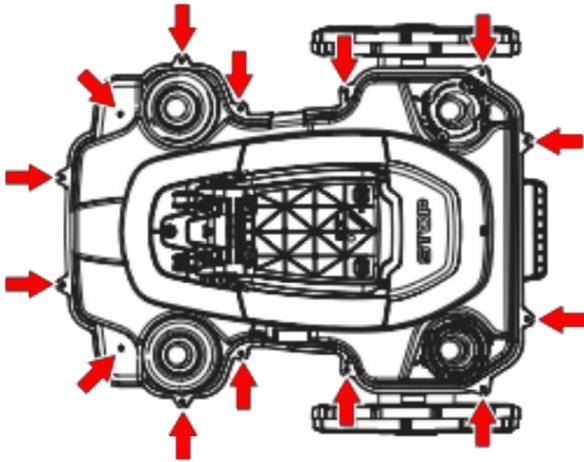

Figure 2
The chassis consists of an upper and a lower part. They are attached to each other with 14 screws. The 14 screws are indicated by arrows in Figure 2.
1. Loosen all 14 screws (torx 20). See Figure 2.